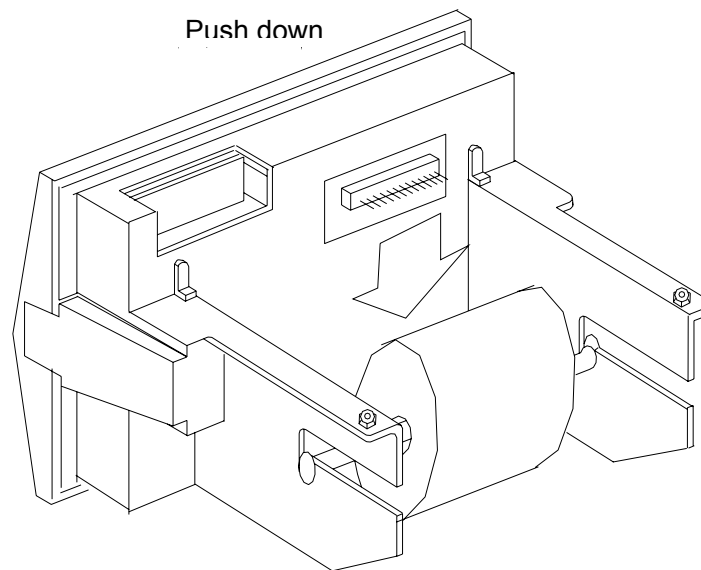

Fig. 8.4
4) Put the new scroll on the spindle. And press the scroll spindle into the groove of the printer as in Fig. 8.4. Make sure the scroll spindle is installed firmly.